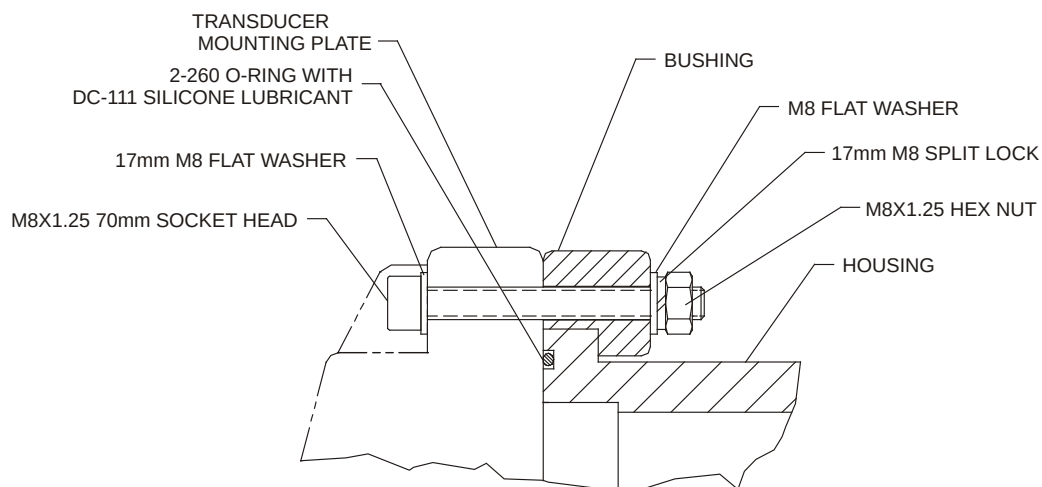

Figure 5. Transducer Mounting Hardware
7. Examine the titanium transducer assembly nuts, bolts, and washers (8mm) for corrosion; replace if necessary. Figure 5 shows the assembly order of the transducer mounting hardware. All hardware items are needed to seal the WorkHorse properly.